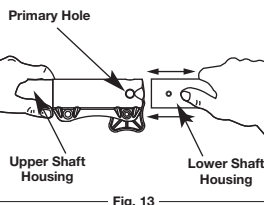

Fig. 13
2. While firmly holding the add-on, push it straight into the EZ-LINK® coupler (Fig. 13).
3. While firmly holding the upper shaft housing, pull the cutting attachment or add-on straight out of the EZ-LINK® coupler (Fig. 13).